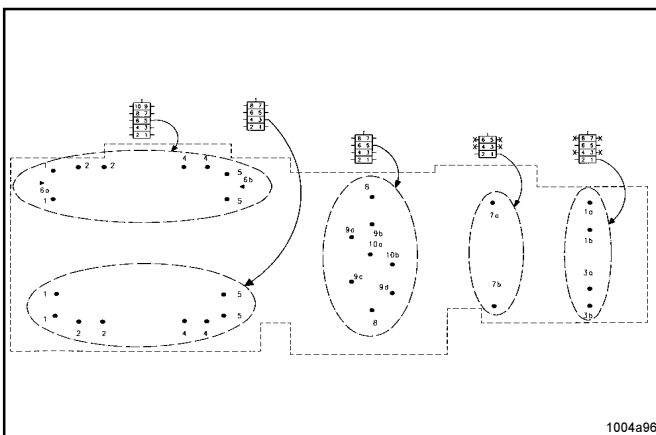
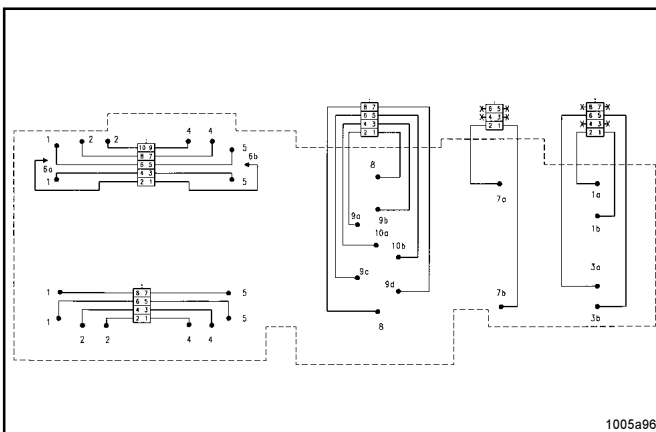

Fig. 36 - Allocating the metering devices
Fig. 37 - Connecting the metering device to the lubrication points
- Close the outlets which are not required (see Fig. 36, outlet 5 or 6), **except for outlets 1 and 2**.
- Check whether one or more secondary metering devices require larger lubricant quantities. See direct connection of the metering device to respectively one single pump element, example Fig. 37.
- Divide the lubricant quantities as shown in the example Fig. 36. Also see the calculation example in Fig. 37.